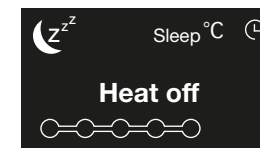

Fig.5
5. The sleep time has elapsed, the heater is switched off and the unit goes into standby mode (Fig.5).